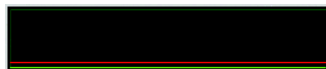

Figure 88. High Sensitivity Setting Level
- Figure 88 shows the position of the red sensitivity indicator at a high sensitivity setting. In this case, a low motion level will cause the green motion indicator to surpass the red sensitivity indicator.